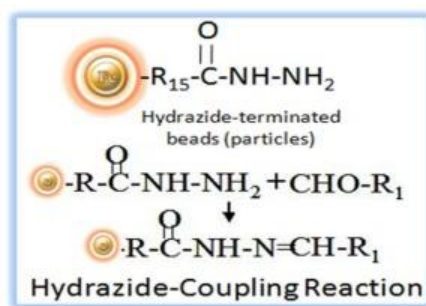

Fig.1 Hydrazide coupling reaction
**BcMag™ Hydrazide-Terminated Magnetic Beads** are uniform magnetic beads grafted with a high density of hydrazide functional groups on the surface. Hydrazide chemistry is effective for labeling, immobilizing, or conjugating glycoproteins via glycosylation sites, which are frequently (as with most polyclonal antibodies) positioned in domains distant from the critical binding sites whose function needs to be preserved. Coupling antibodies in this manner selectively targets heavy chains in the Fc portion of the molecule, assisting in the best possible preservation of antigen binding activity by the ends of the Fv regions. At pH 5 to 7, hydrazide-terminated supports and compounds will conjugate with carbonyls of oxidized carbohydrates (sugars), producing hydrazone linkages (Fig.1). The hydrazide beads are suitable for conjugating larger glycoproteins and glycolipids, carbohydrates or other ligands. Moreover, the hydrophilic surface ensures low nonspecific adsorption, excellent dispersion, and easy handling in various buffers.